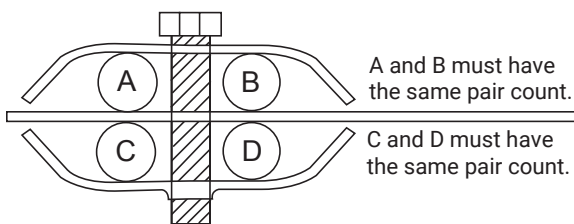

Figure 5
1. Using a 216 tool, loosen the compression bolt on the drop wire grommet until the bolt turns freely. (Figure 5)